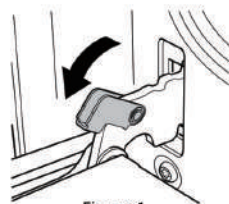

Figure 1
1. Open the door to the maximum angle and pull the lock back at the hinge of the door(Figure 1). There are two locks on both sides of the oven door.